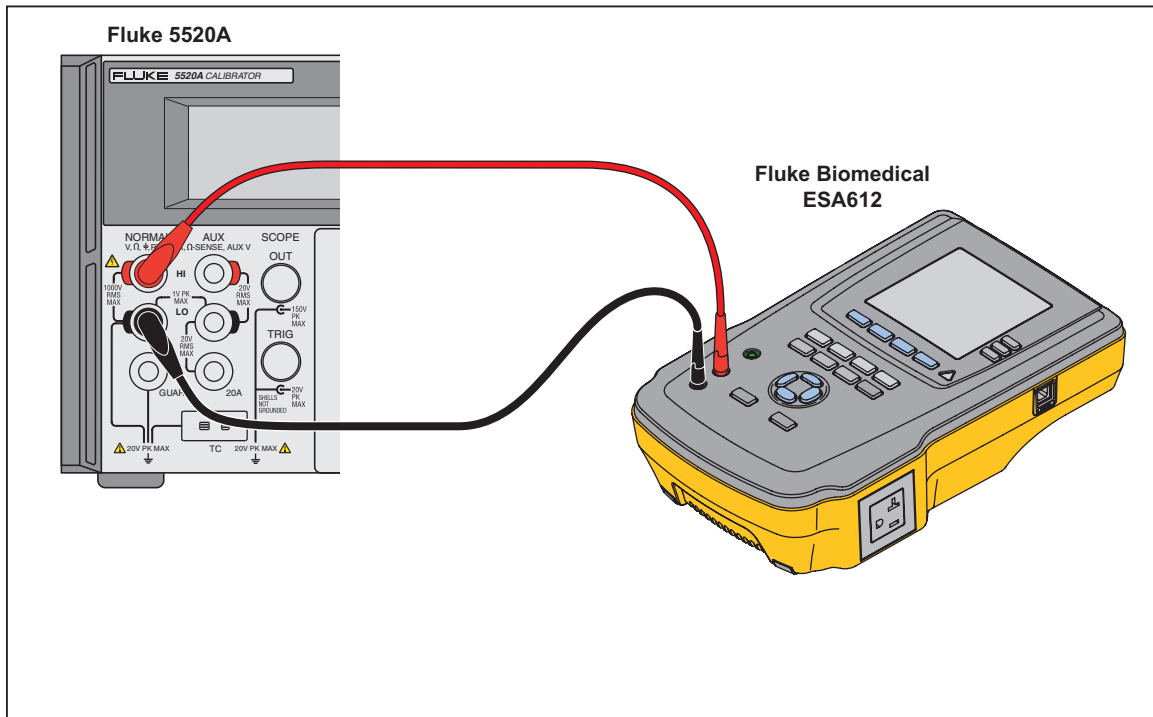

Figure 3-29. AC Meter Calibration Connections
22. Connect the calibrator to the red and black jacks as shown in Figure 3-29. Set the calibrator for 2.000 V, 120 Hz ( $\pm 200$  mV).